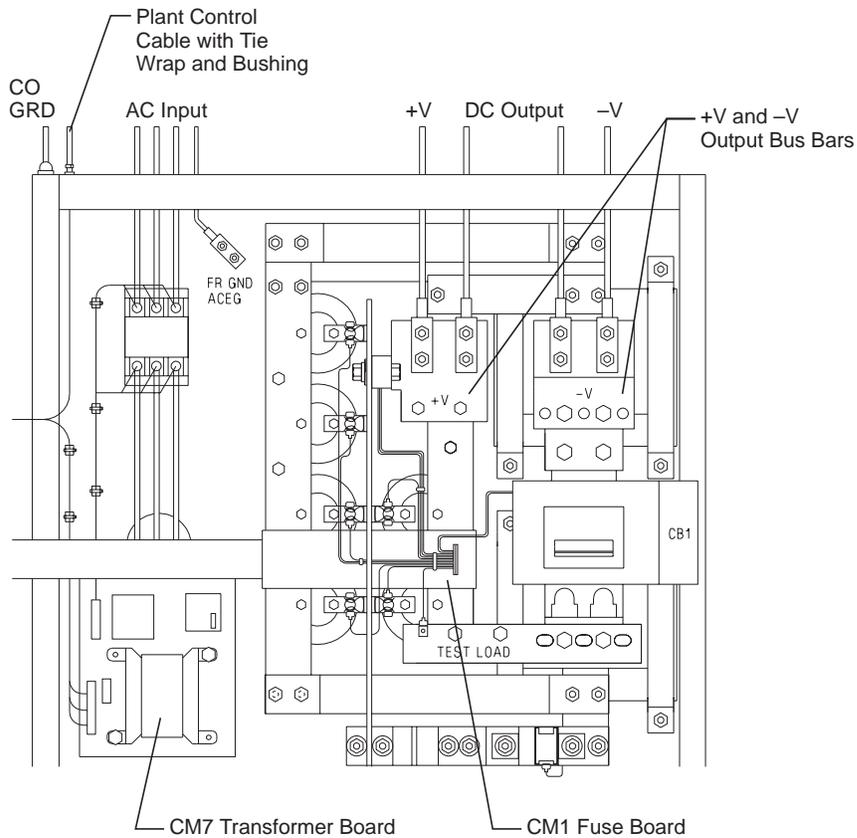
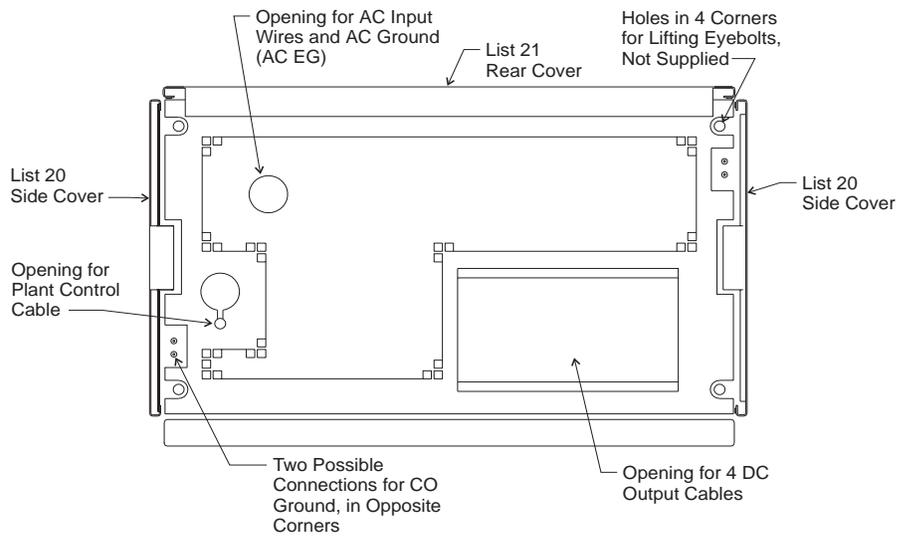

Figure 5-3: AC and DC Termination Points
Figure 5-4: Top View of the J85603C-2 Rectifier
The customer is responsible for providing ac power to the rectifier. Table 5-A gives requirements for the ac power installation. Separate branch circuits must be provided to each rectifier to ensure the reliability of the system. A branch circuit consists of all the phase leads to a rectifier plus the ac equipment ground (**AC EG**). The wiring method should meet national and local codes. Figure 5-3 shows the ac input wire termination points. Figure 5-4, top view of the rectifier, shows openings for the ac input conduit and two required grounds.
DC Output Power The J85603C-2 rectifier requires two dc output cables connected to each of the positive and negative output terminals. Figure 5-3 shows the output terminals. Figure 5-4 shows the opening in the top of the rectifier for the dc output cables. Table 5-B specifies possible dc output cable sizes and their connectors.
6. Slide internal flanges on the side and rear covers into the mounted plastic clips as shown in Figure 5-4. With covers resting in the clips, secure the top of the covers with #10-32 self-threading screws (900557463) and star washers (804236347).
Use Figures 5-3 and 5-4 as references for this section. Observe all precautions in Section 4, *Safety*.
DC Power Cables Plant bus bars carry 52 volts dc. Observe **DANGER** warnings in Section 4, *Safety*. Use Figures 5-3 and 5-4 as references for this section.
6. Insert ends of return cables through top of rectifier and terminate connector on the positive ground bus bar in the rectifier. Torque connections to 30 Nm (240 in-lb). See Figure 5-3.
9. Insert ends of charge cables through top of rectifier and terminate connectors on negative bus bar in rectifier. Torque to 30 Nm (240 in-lb). See Figure 5-3.
The central office (**CO**) ground is “daisy-chained” to all rectifiers in a plant and terminates on the central office ground bus. The ground conductor must be 2 AWG wire (66,370 circ mils) or equivalent, for which a lug should be ordered and two 1/4-20 bolts are provided. Connect the **CO** ground to the nearest connection point on top of the rectifier (see Figure 5-4). Torque to 8 Nm (65 in-lb).